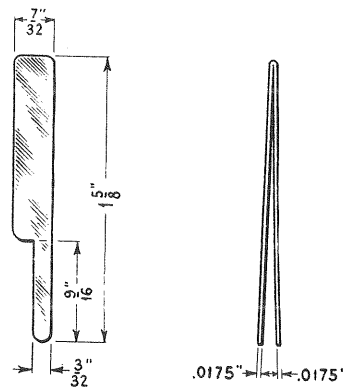

Figure 9—Magnetic pick-up armature spacing tool
- (a) Procure an RCA magnetic pick-up feeler tool. This is RCA Part No. 2677, or it may be easily constructed by referring to Figure 9.